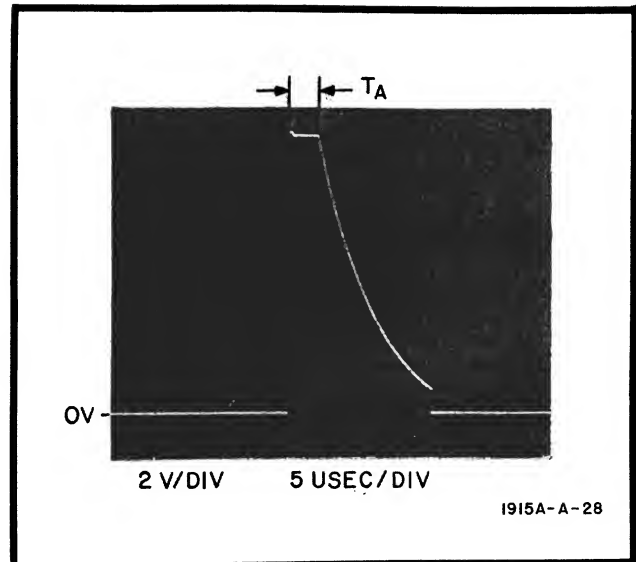

Figure 5-3. Positive Overload Test Pulse
f. Using monitor oscilloscope observe Model 1915A output. Output should be similar to that shown in Figure 5-3. Limit: T_A should be less than 5 usec.